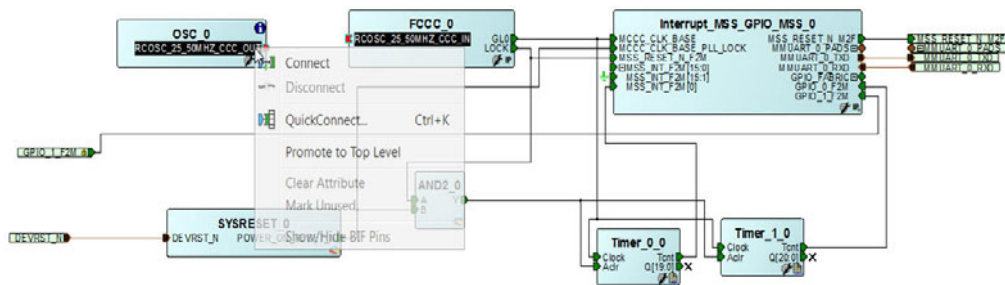

Figure 3-5 • Making Connections in the SmartDesign Canvas
13. Right-click and choose **Connect** from the drop-down menu to connect the two selected ports (Figure 3-5).